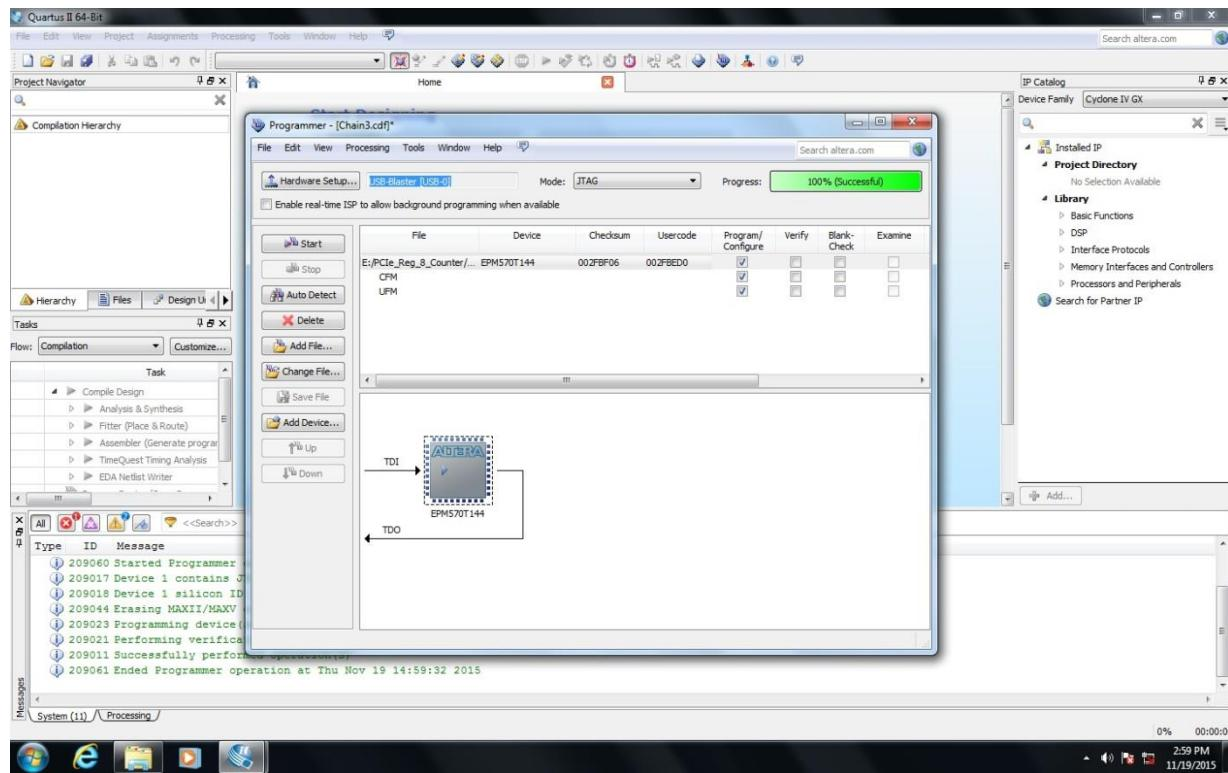

Figure 34: Flashing the image on the device
- Finally, click the *start* tab to start flashing the image. On successful flashing, 100% is shown in the progress box as shown in the figure 34.
- Finally, click the *start* tab to start flashing the image. On successful flashing, 100% is shown in the progress box as like shown in the figure 34.